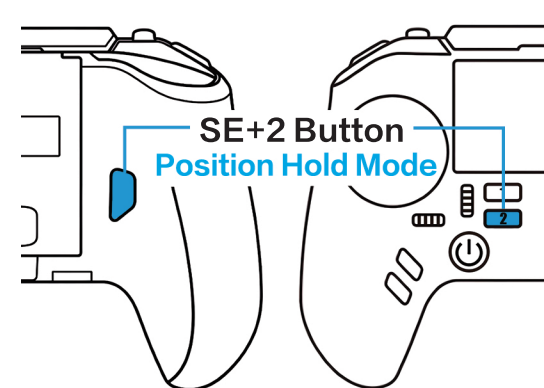

Figure 7
1. Using the remote controller, first switch the robot to **Force-Controlled Standing Mode (SE + button 4)**, then to **Position Hold Mode (SE + button 2)**, and verify that the robot's joints are fully locked (Figure 7).